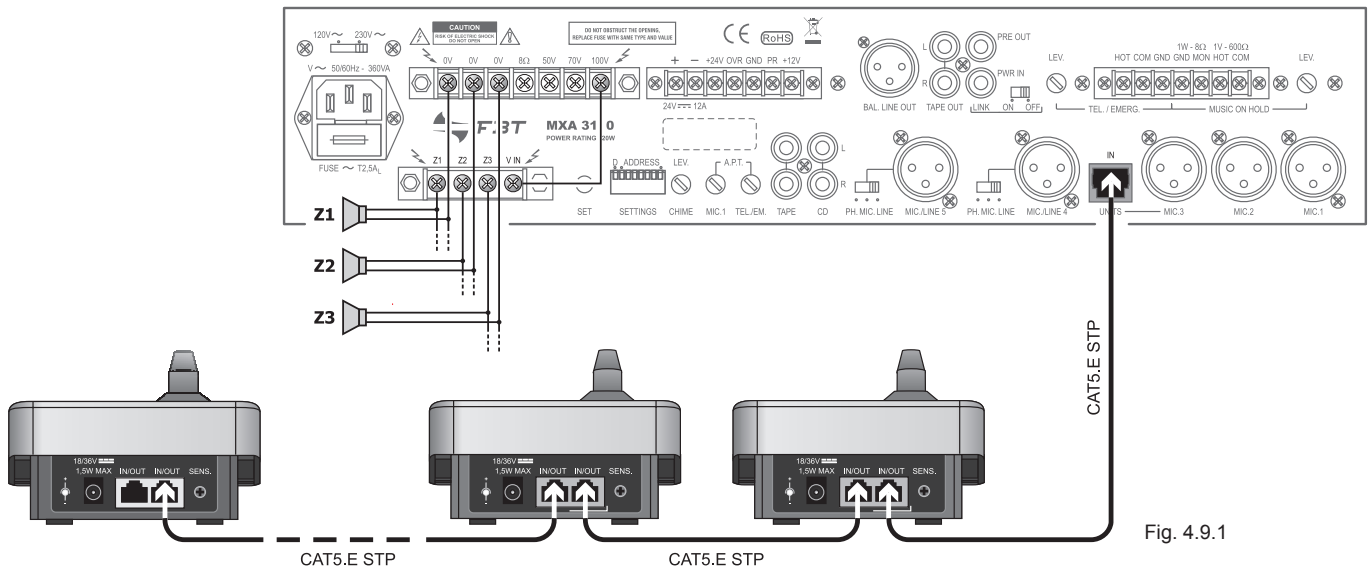

Fig. 4.9.1
Connecting the **MBT 1106** microphone stations to **MXA 3000** amplifiers is simple and rapidly achieved. Both these pre-amplified microphone stations feature electret microphones, and enable messages to be sent to one or more listening zones. **To connect these two models, it is ESSENTIAL to use STP CAT 5.E cables (shielded).** The selection will be made automatically via connection to the **IN UNITS** socket (22). An example of a connection for a three-zone calling system is illustrated in Figure 4.9.1. The output level is controlled from the front panel (2).